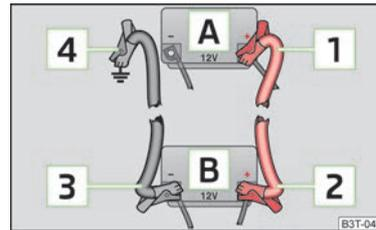

Fig. 161
- Attach one end [1] » Fig. 161 to the positive terminal of the discharged battery [A].
- Attach one end [3] » Fig. 161 to the negative terminal of the battery supplying the power [B].